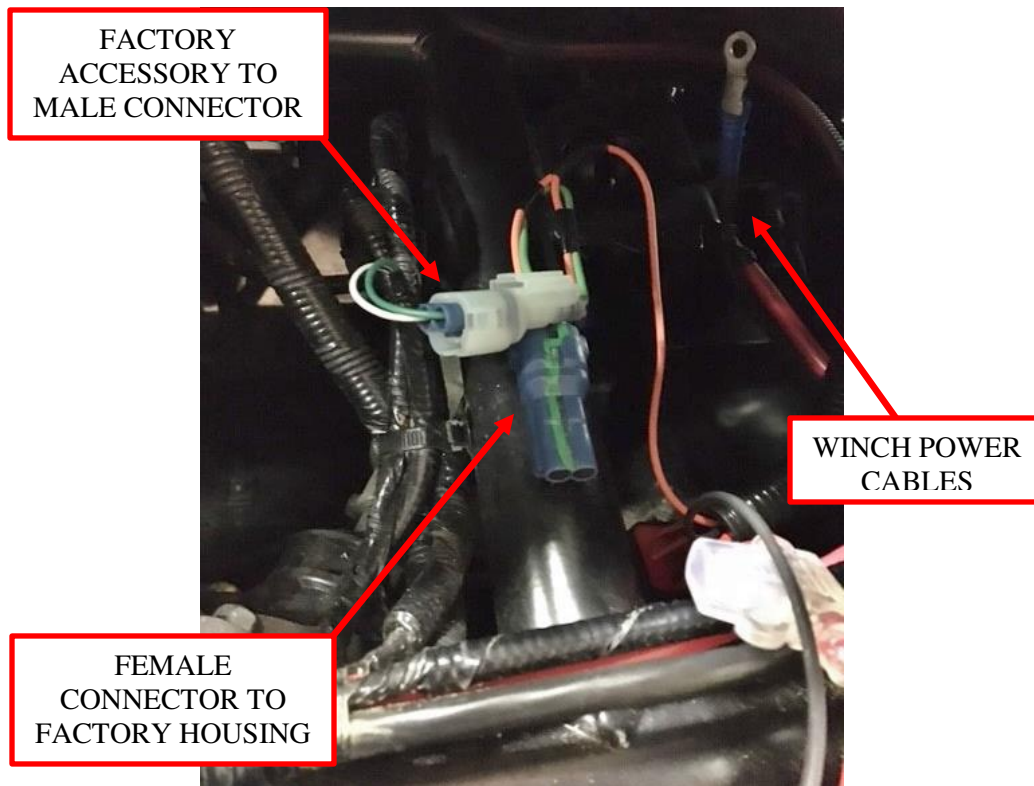

Figure 9: Connect to the accessory connector.
9. Unplug the factory accessory connector from the housing, and plug it into the mating male *Audio Mini* chassis connector. Plug the female *Audio Mini* chassis connector back into the factory housing on the frame tube. See Figure 9.
10. Using the winch power cables shown in Figure 8 and Figure 9, use the ¼"-20 x ½" bolts and hardware to connect the black ground wire to the black (negative) ring terminal and the red power wire to the red (positive) ring terminal. Slide the provided insulators over the bolted ring terminals to prevent arcing or shorting of the power cables.